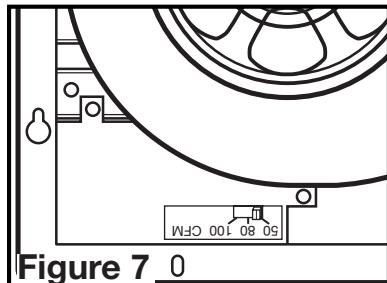

**Figure 6**
- Connect the White wire from the house to the White wire from the fan. Connect the Black wire from the wall switch to the Black wire from the fan. Connect the ground wire from the house to the Green wire from the fan (Figure 6). Use approved methods for all connections.